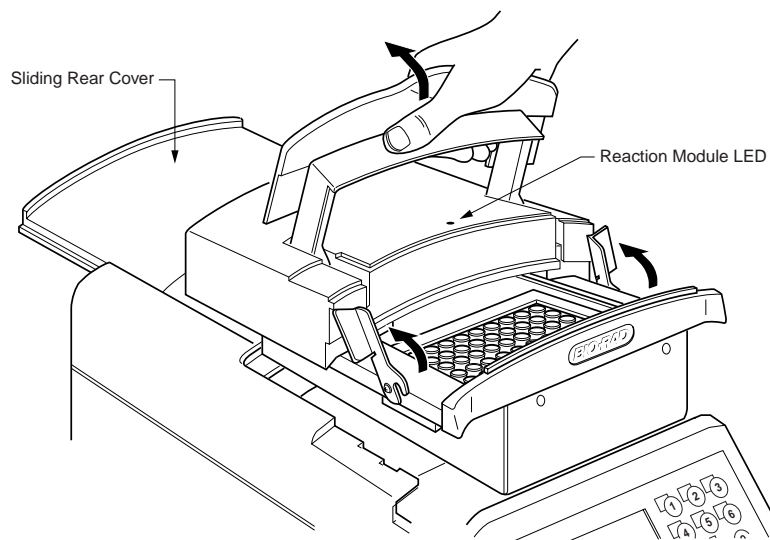

Fig. 1.4. Replacing a reaction module.
3. Lift the green latches on either side of the reaction module and rotate until they contact the lid as shown in Figure 1.4.
2. Rotate the green latches until they contact the lid as shown in Figure 1.4.